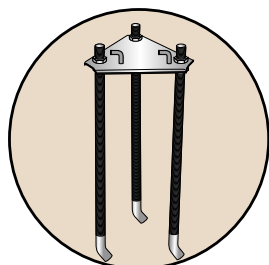

Fig 1,
1. Check the contents. Assemble the hinging plate onto the 3 foundation bolts with the flagstaff hinging lugs uppermost and lock into position with the 3 flat nuts as supplied. (See Fig 1)